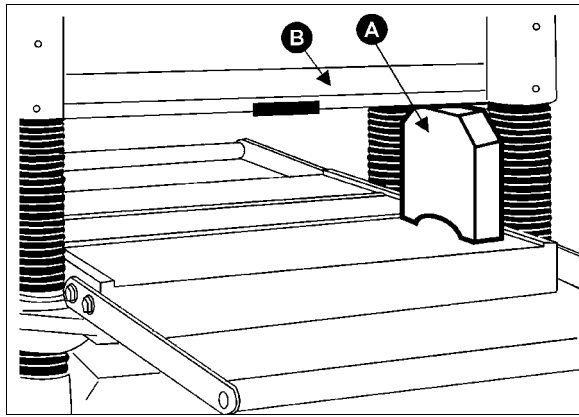

Figure 25
2. Turn the handwheel clockwise; raising the cutterhead assembly high enough to place the gauge block (A, Fig. 25) on the worktable under one end of the head casting (B, Fig. 25).